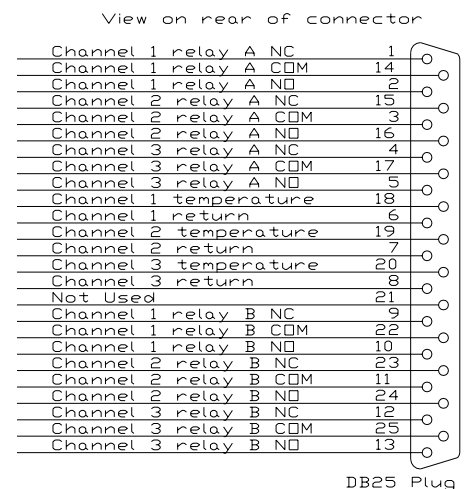

Figure 7 Alarm Connector
3.9.2 Figure 7 shows the connector pin identification.